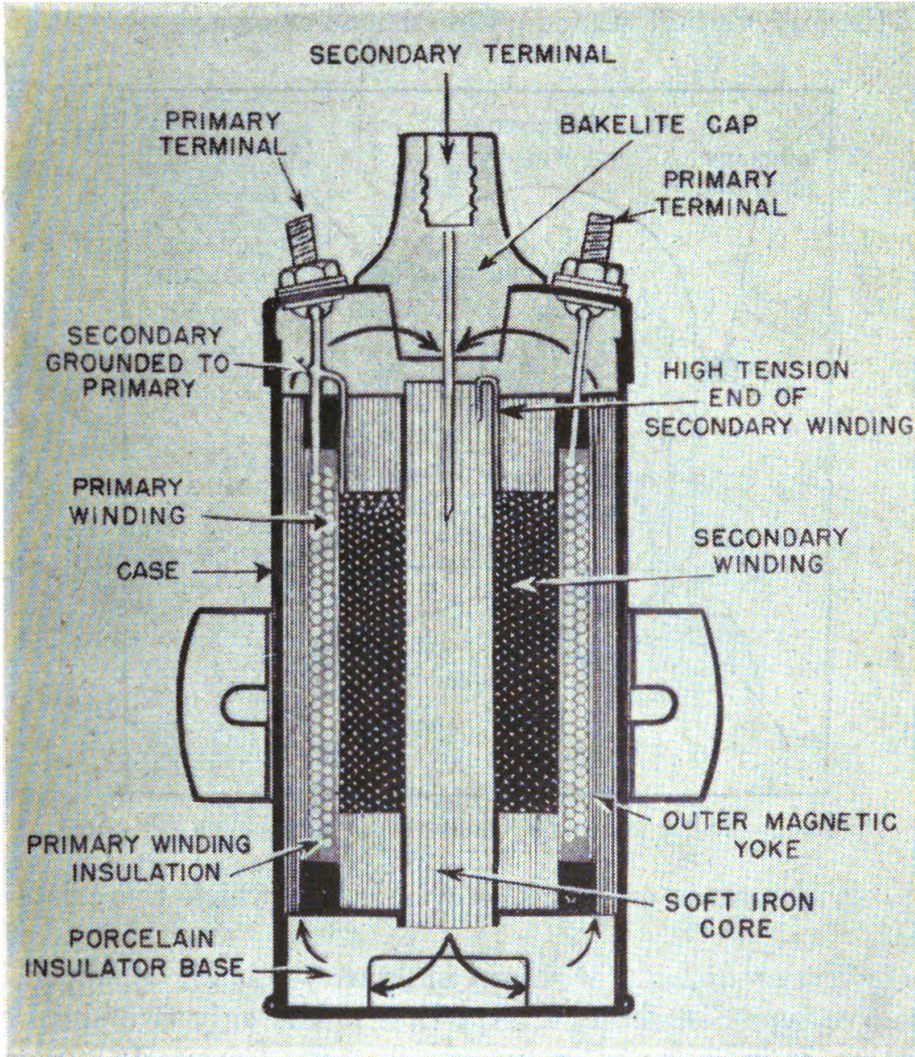

FIGURE 98.—Ignition coil with secondary winding next to core.
**81. Ignition coil.**—The ignition coil (fig. 98) is composed of a primary winding and a secondary winding around a soft iron core. The primary winding has approximately 200 turns of heavy wire.